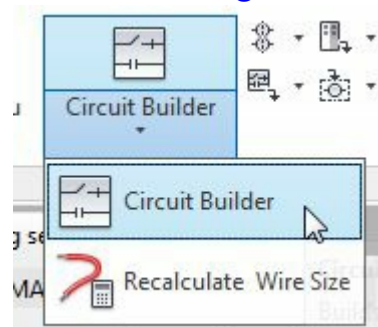
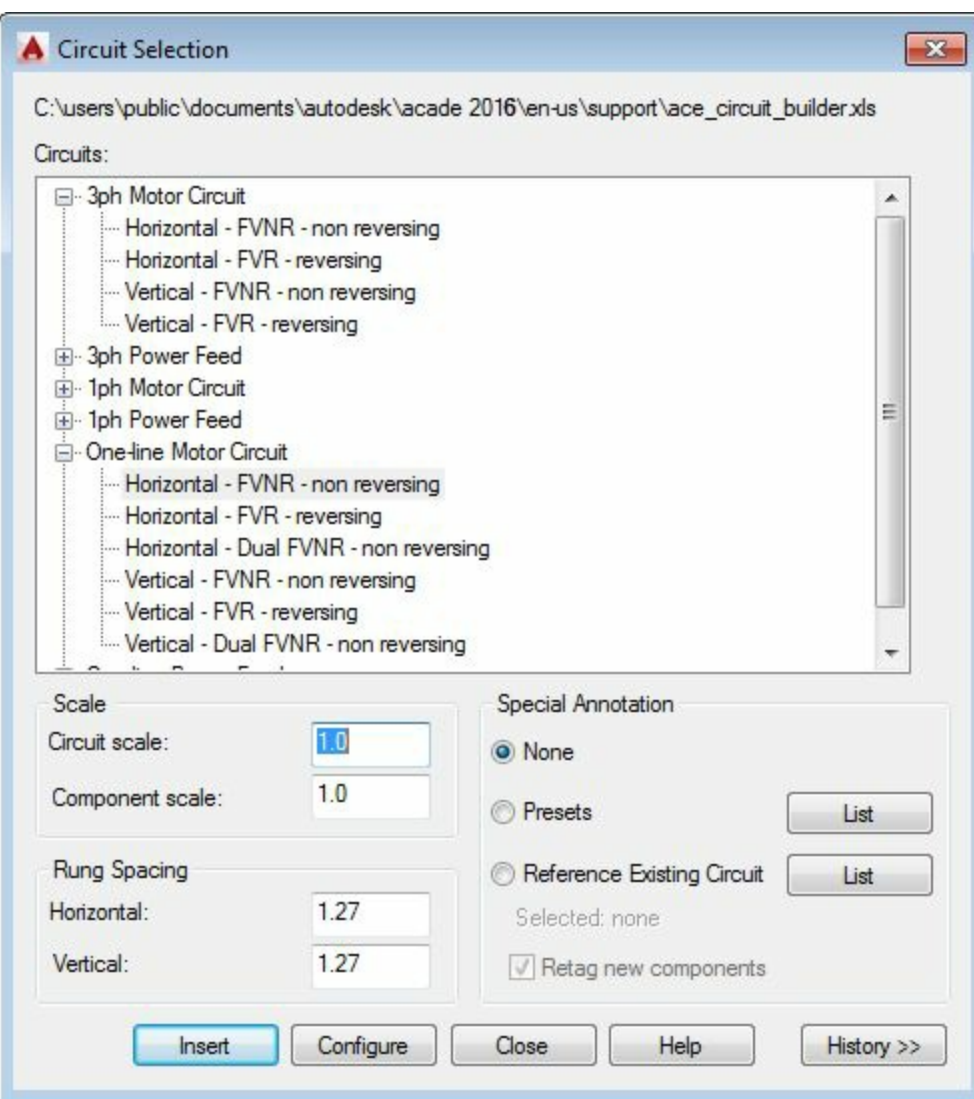

Figure-46. Circuit Builder tool
Figure-47. Circuit Selection dialog box
- Click on the **Circuit Builder** tool from the **Circuit Builder** drop-down in the **Insert Components** panel in the **Ribbon**; refer to Figure-46. The Circuit Selection dialog box will be displayed as shown in Figure-47.